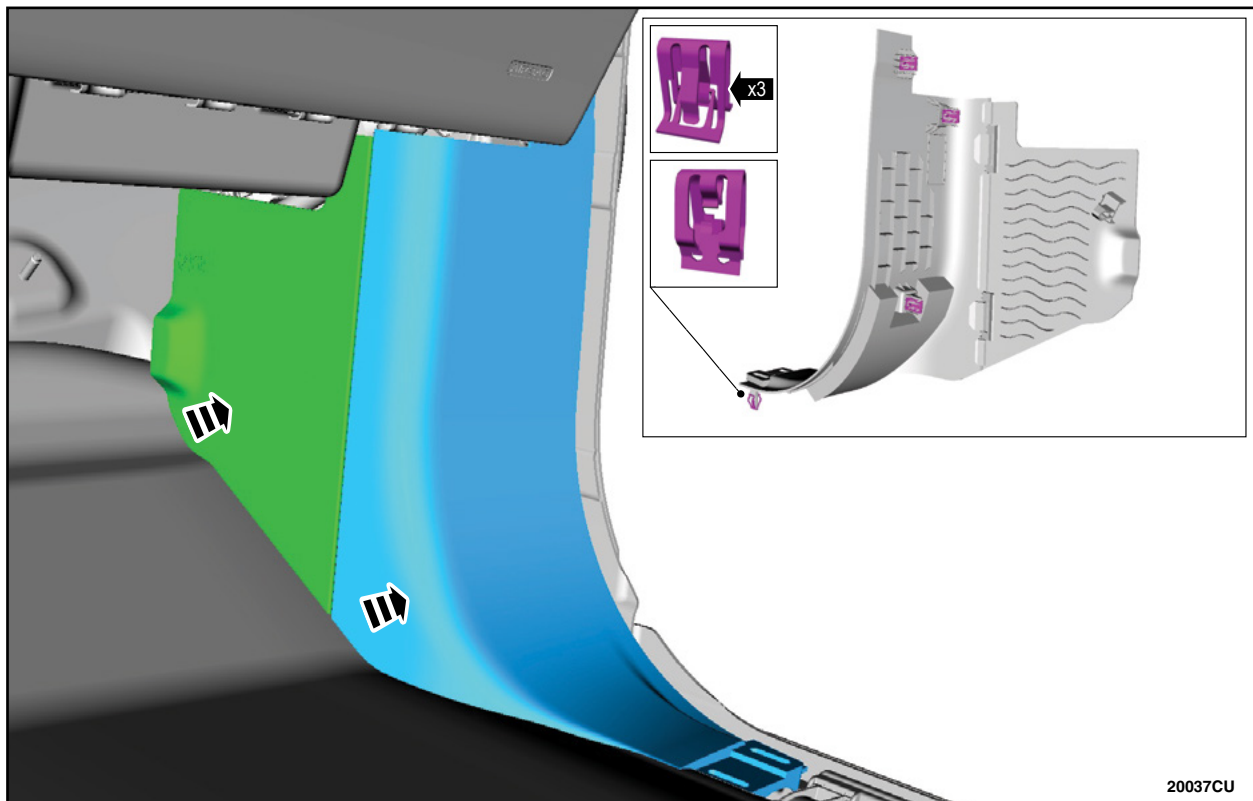

FIGURE 103
94. Install the RH Lower Cowl Trim Panel and the Fuse Panel Cover. See Figure 103.